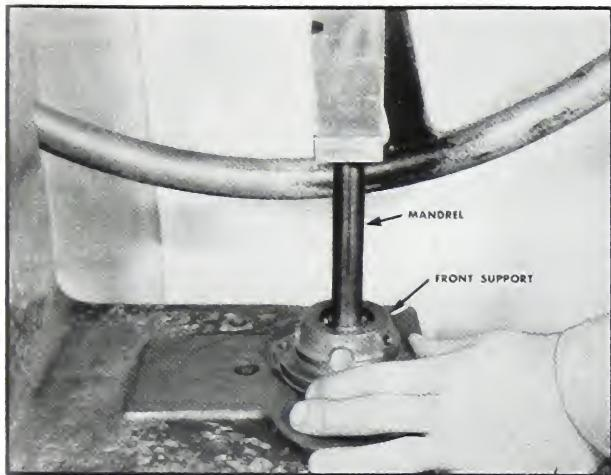

Fig. 5-311. Pressing bearing and retainer from support
2. Press the bearing, retainer, and oil seal out of the front support. Fig. 5-311.